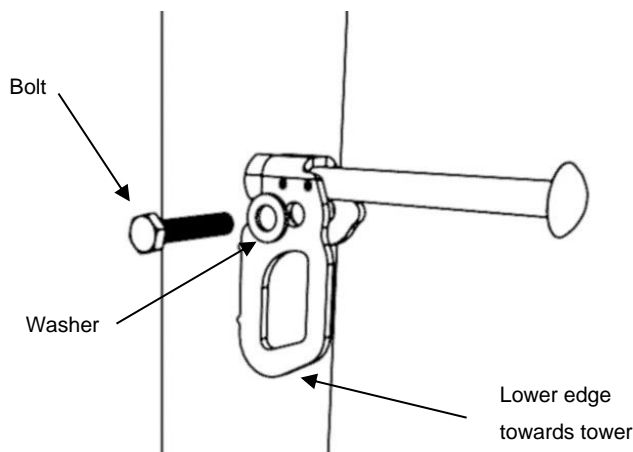

Fig 2
- Insert the supplied bolt and washer through the fixing hole in the **S-K2™** until it engages with the fixed nut and hand tighten. Use the supplied bolt and washer only, do not use any other bolts or washers. Fig 2.